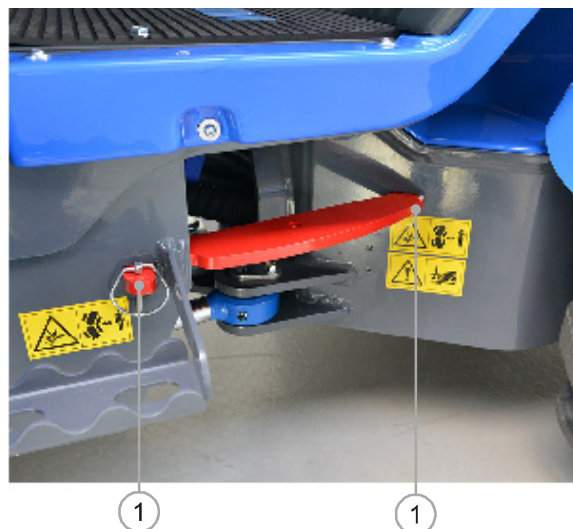

FIG. 18
- 4) Insert the bracket (FIG. 18 - Ref. 1) into the two slits placed on the left side of the machine near the joint of the central steering and secure it by the appropriate plug.